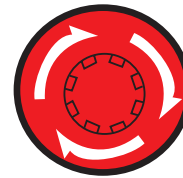

Figure 63. Emergency Stop Switch
1. To stop the engine in the event of an emergency, press the **Emergency Stop** switch (Figure 63), located on the side of the generator next to the output terminal panel.